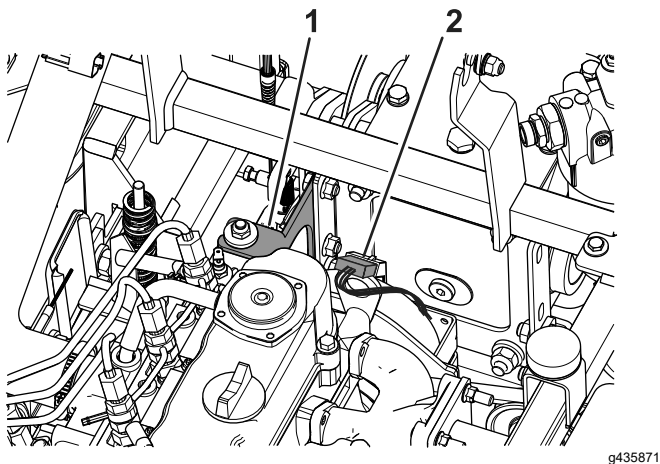

Figure 79
5. Disconnect the wire connector for the clutch (Figure 79).
6. Remove the 3 bolts and 3 nuts that secure the clutch bracket to the frame and clutch (Figure 79).